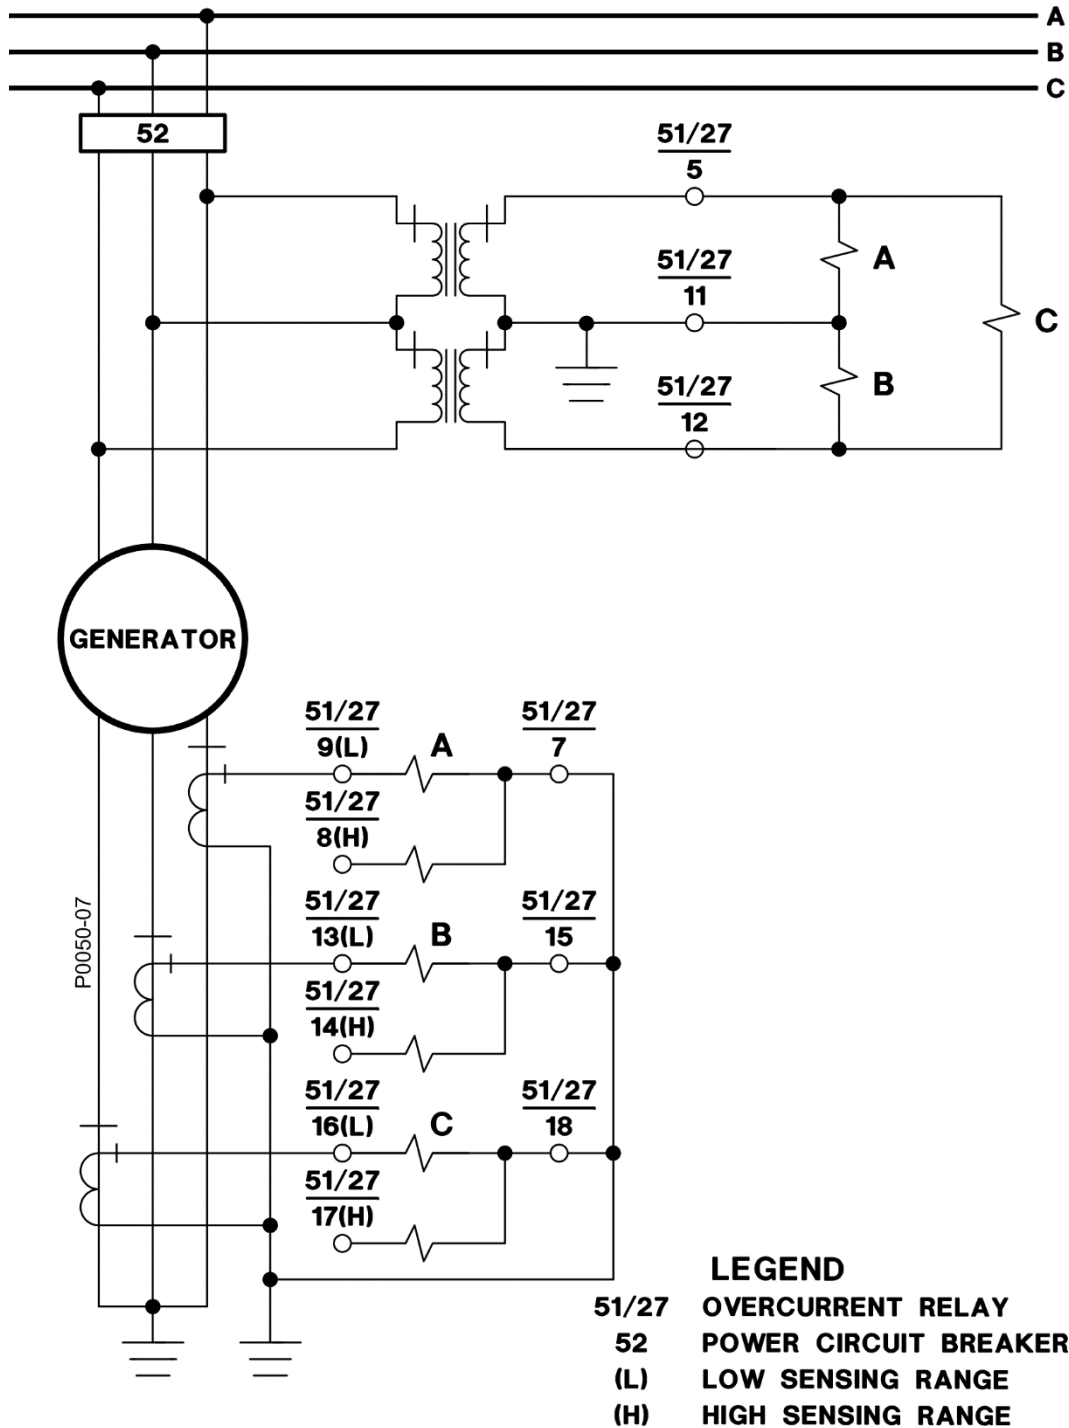

Figure 4-17. Typical External Connections, Sensing Input Type B or C
- Figure 4-17: Typical External Connections, Sensing Input Type B or C